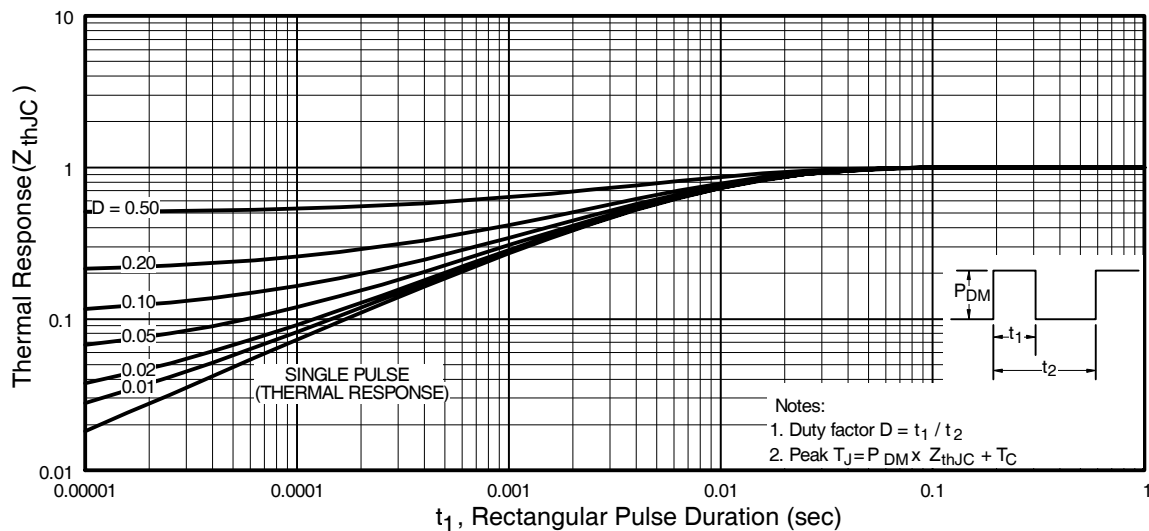

Fig 11. Maximum Effective Transient Thermal Impedance, Junction-to-Case
① Repetitive rating; pulse width limited by max. junction temperature. (See fig. 11)
② Starting $T_J = 25^\circ\text{C}$, $L = 64\mu H$